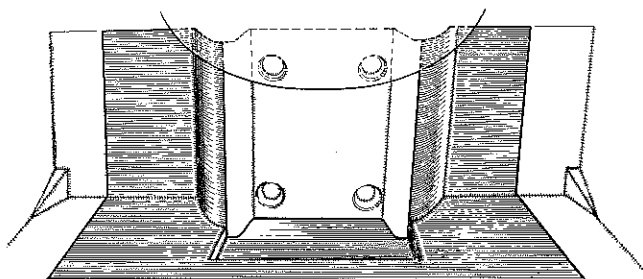

Fig. 23
- iii. Before the defective diff. box can be prised away from the body, it is necessary to cut away a certain amount of the boot liner as illustrated in Fig. 23, both to release the diff. box bonds and to provide access for doing the reinforcing laminate at a later stage.